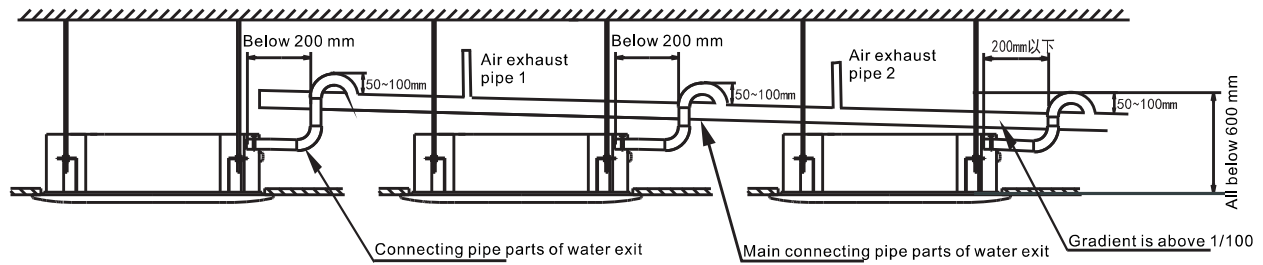

Figure 4.2 Drainpipes of Several Unites Connect with Sewer through Main Drainpipe
7) If the exit of drainpipe is higher than pumping connecting pipe of main body, drainpipe should be kept vertical upwards as it is possible. The connecting pipe part of water exit has the function of bending vertically and the drainpipe should be set within 600 mm from water tray. Otherwise, when it stops, too much water that flows back will cause overflow. (See Figure 4.2)